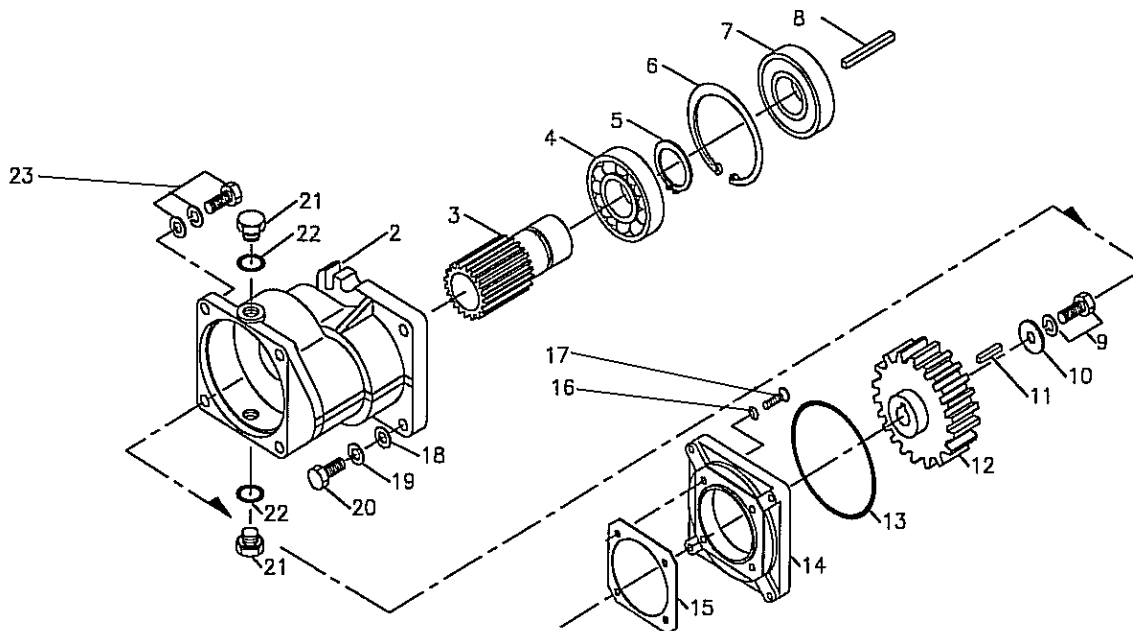

Figure 1. High-Pressure Pump Module Gearbox (Exploded View).
2. Remove items (9) through (15). See WP 0098 00.
3. Remove lower drain plug (21) with drain plug O-ring (22) from gearbox housing (2). See Figure 1.
4. Completely drain the oil from the gearbox crankcase into a suitable container. See Figure 1.
5. Place gearbox (1) on work surface with pinion oil seal (7) facing up.
6. Remove pinion oil seal (7).
7. Remove outer retaining ring (6) in groove below pinion oil seal (7).
8. Remove pinion gear (3). Place gearbox on housing (2) flange. Press ball bearing (4) out from inside gearbox housing (2).
9. Remove ball bearing (4) from pinion gear (3).
10. Remove inner retaining ring (5).
11. Set pinion gear (3), ball bearing (4), and inner retaining ring (5) aside for reassembly.
12. Remove retaining screw with lock washer (9) and flat retaining washer (10) from spur gear (12).